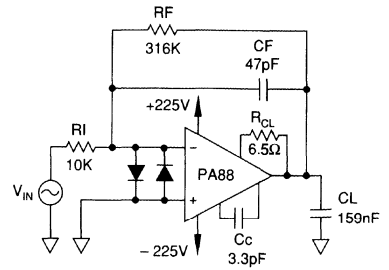
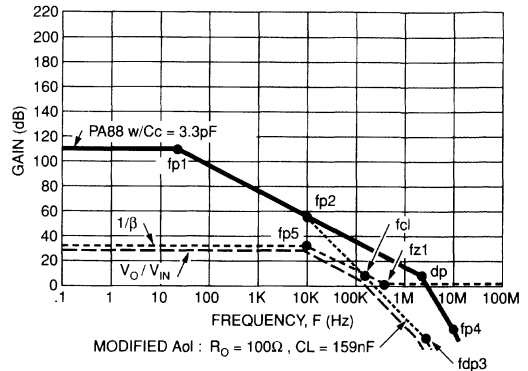

FIGURE 26. FEEDBACK ZERO COMPENSATION FOR CL
FIGURE 27. FEEDBACK ZERO COMPENSATION FOR CL MAGNITUDE PLOT FOR STABILITY
Figure 26 illustrates a circuit utilizing Feedback Zero Compensation for stability when driving a capacitive load. Figure 27 is our magnitude plot to work with for stability. The following procedure will ensure a logical approach to optimize stability:
The higher frequency poles of the unmodified PA88 Aol must be added into the modified Aol as shown in Figure 26.
STEP 3: Plot DC 1/β. Add pole in 1/β plot to compensate for fp2. Ensure fp5 is one-half to one decade away from fcl such that if the modified Aol plot in the real world moves to the left towards lower frequency we will not be back at a 40 dB per decade rate of closure. Note in Figure 27 that the 1/β plot has fp5 and fz1. The feedback network continues to feed back output voltage beyond fcl until we reach 0 dB. Then the 1/β plot flattens out at 0 dB. It is important to include fz1 since it will be a pole in our open loop phase check and will affect phase at frequencies lower than fcl. At fcl loop gain is zero
STEP 5: Once you have chosen CF to get the fp5 you want you automatically set fz1. fz1 can be gotten graphically from the $1/\beta$ plot. For those of you who want exact breakpoints, here are the formulae for the $1/\beta$ plot in Figure 27.